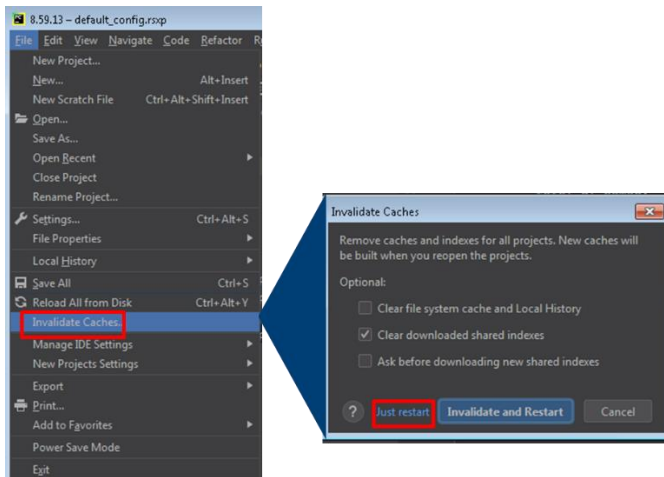

Fig. 2-24 Restart PyCharm
- f) Restart PyCharm in the following way (Fig. 2-24):